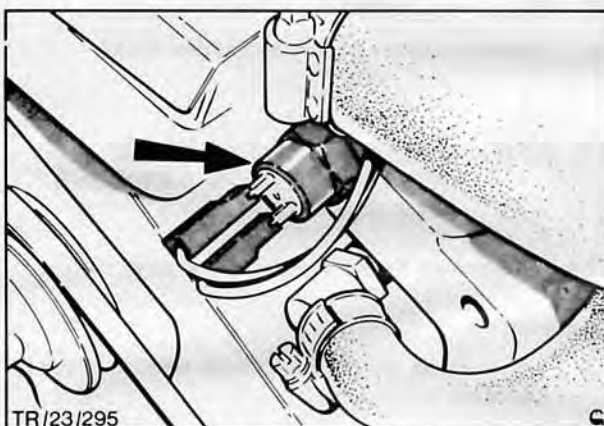

Fig. 42A. Glow Plug temperature sensing switch
3. Disconnect loom and unscrew switch from cylinder head, Fig. 42A.